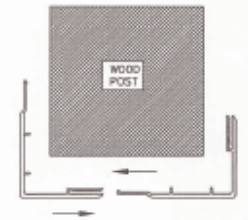

Figure 1
3. Snap together (2) pieces of the Post Wrap. Start installation at one end and continue entire length. If necessary a white rubber mallet can be used to tap the pieces into place. (Make sure to use the same channel on each Post Wrap section as you snap them together.) SEE FIGURE 1.